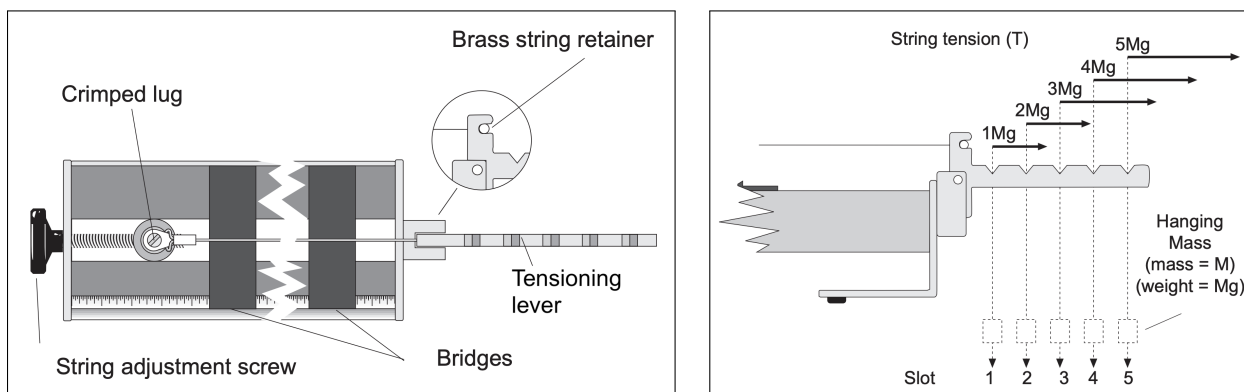

Figure 5: The sonometer adjustment screw (left) and tensioning lever (right). Credit: PASCO Scientific.
2. Start with the bridges 60 cm apart. Use any of the included strings with a known linear density (see Table 1) and hang a mass of approximately 1 kg, being sure to include the mass of the hanger itself, from the first slot of the tensioning lever (see Figure 5).
1. Replace the wire on the sonometer with a color-coded unknown wire. With the setup otherwise the same as in the previous section, measure the fundamental harmonic f_0 at 5 different tensions. Vary the tension by keeping the mass the same but changing its location on the tensioning lever (refer to Figure 5). Each time you move the mass, readjust the string adjustment knob so the tensioning lever remains horizontal.